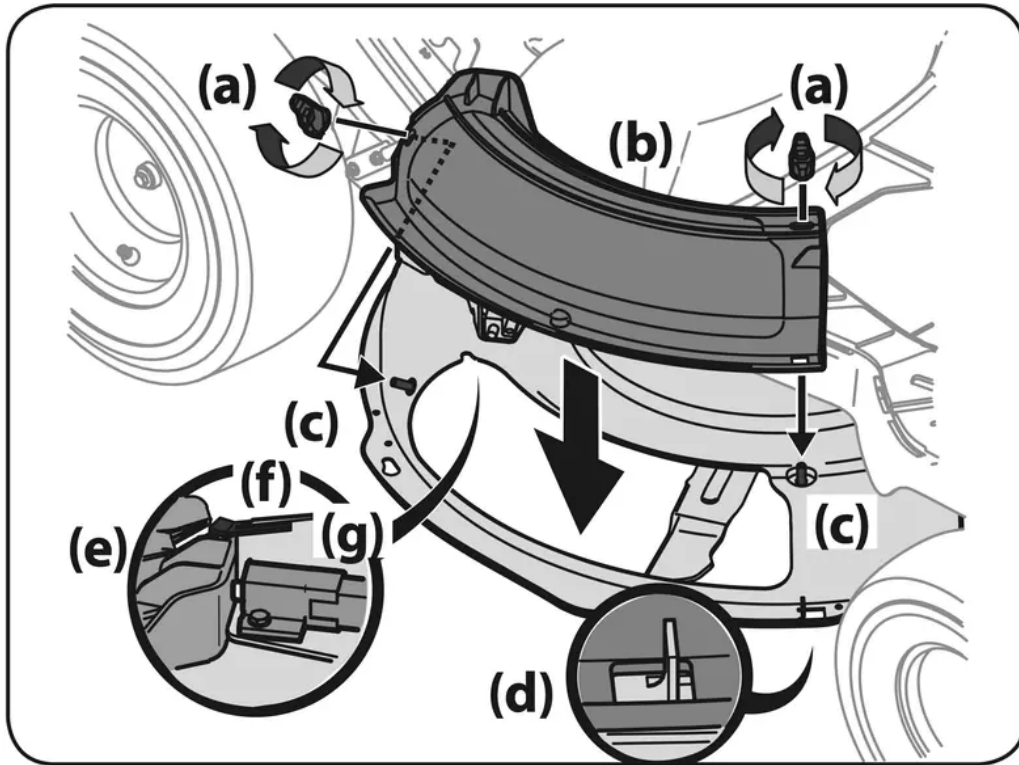

Figure 9
1. Remove the wing knobs (a) installed on the mowing deck and retain for later installation. See Figure 9.
2. Install the mulch plug (b) into the deck discharge opening on the deck. The rear of the mulch plug (b) should be under the tab (f) on the rear deck bracket (g). The studs (c) on the deck surface will fit through the holes on the upper portion of the mulch plug (b). The small tab (d) on the deck lip area will fit through the square cutout on the lower portion of the mulch plug (b). See Figure 9.